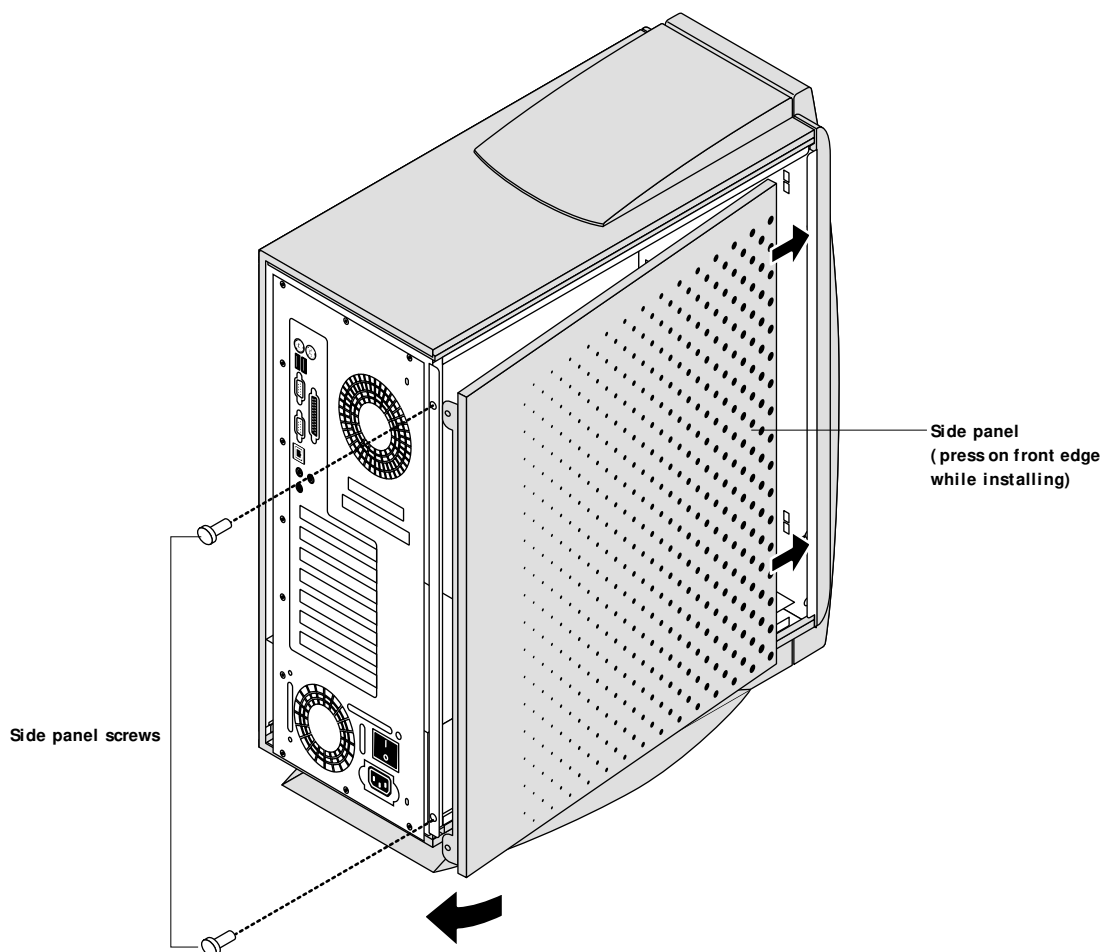

FIGURE 4-8 Replacing the side panel
4. Slide the side panel into the grooves along the edges of the tray (see Figure 4-8).